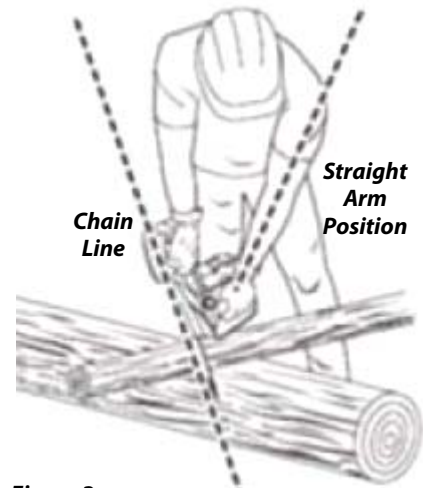

Figure 3
Proper Cutting Stance (Figure 3)
- Take the proper stance in front of the wood with the Saw OFF (**Figure 3**).